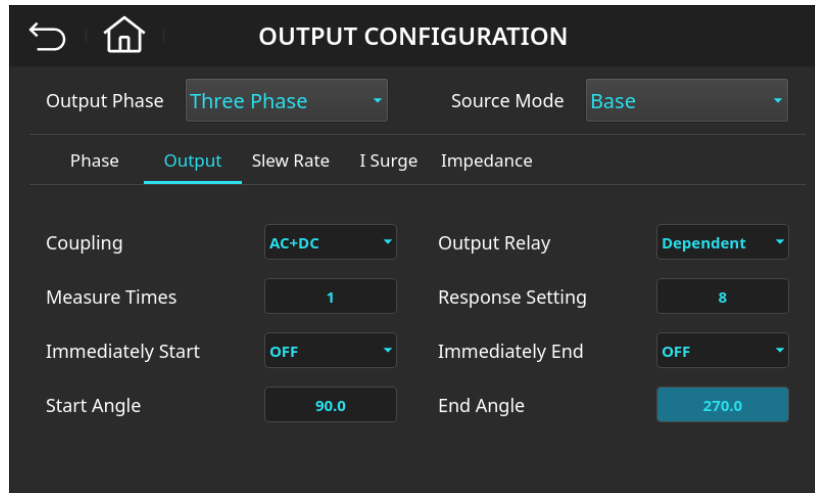

Figure 4-40: Output Configuration (Output) Page – Start Angle Set to 90° and End Angle Set to 270°
5. Enter , , , then press the  key. The value will change to "270.0", as shown in Figure 4-40.